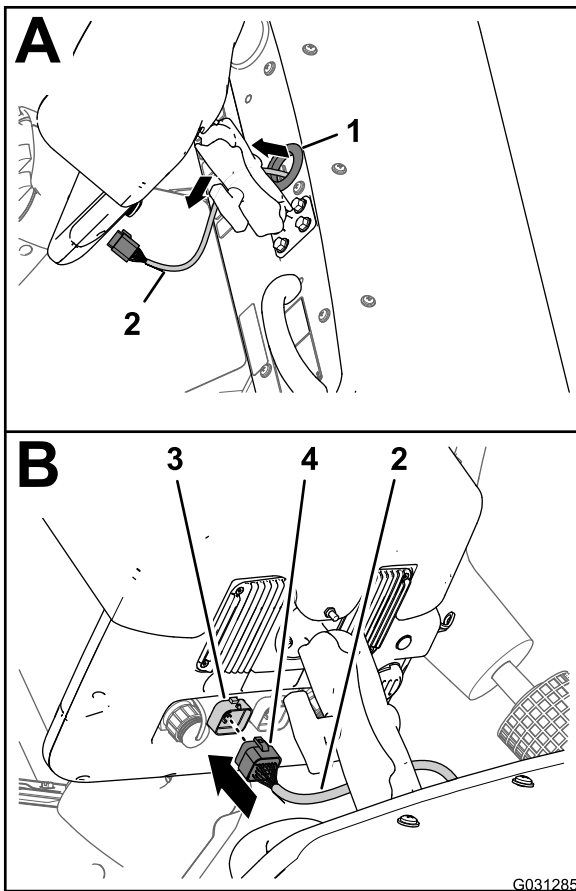

Figure 176
5. Route the route the 220 cm (86-5/8 inches) branch of the data harness up through grommet that surrounds the hole in the dash panel (Figure 176).
6. Align the 26-pin socket connector of the data harness with the 26-pin connector of the sprayer display and press the socket connector into the pin connector until the latch of the connector snaps securely (Figure 176).